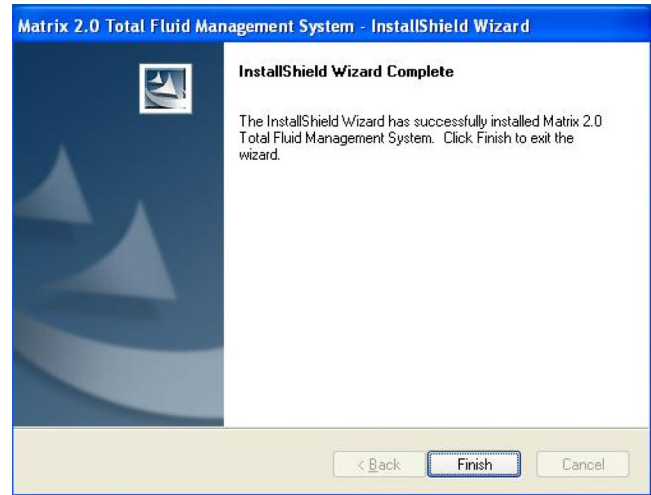

FIG. 33 Setup Path 2 - Install Complete
- Transfer of application files from the setup program to the hard disk is complete (FIG. 33). Click **Finish**.